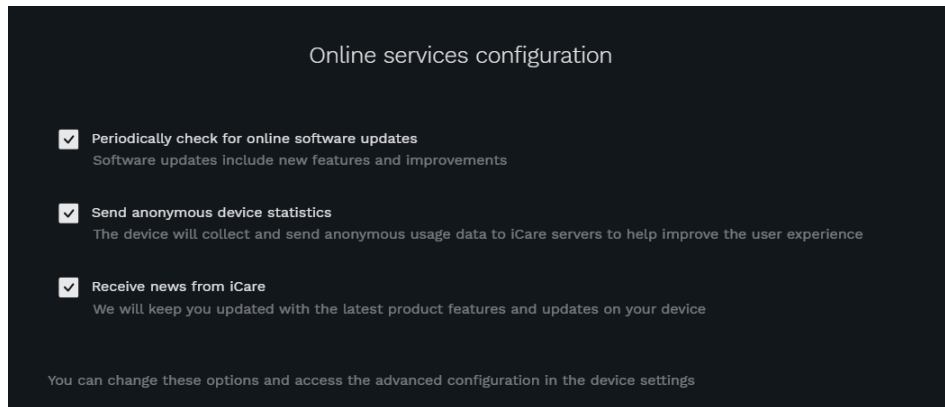

Fig. 20 - Online services configuration
9. Select the Online services configuration (Fig. 20). Select among the options. It is strongly recommended to enable the *Periodically check for online software updates* option to receive the security updates.